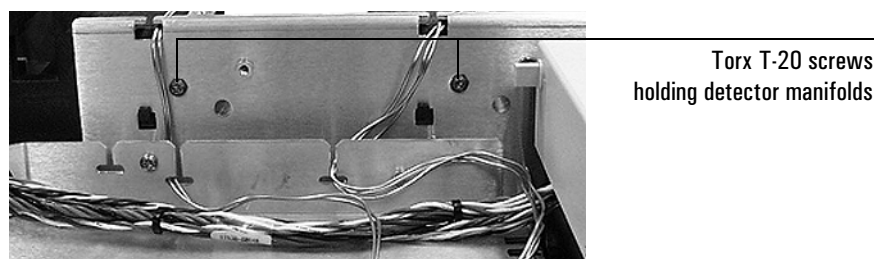

Figure 4 Removing the detector flow manifold
4. Remove the Torx T-20 mounting screw from the front of the manifold. See Figure 4.
5. Disengage the detector tubing from the slots in the chassis so that the gang fitting on the manifold can be removed easily. See Figure 4.
6. Route the gas tubing behind the manifold, over the top of the chassis, and through the slots as shown in Figure 4 and Figure 8.
8. Secure the manifold in place using the Torx T-20 screw. See Figure 4.